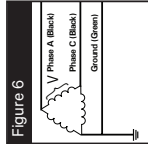

Figure 6
- 240C = 240V B Corner Grnd Delta, 3Ø 3W+Grnd (Fig 6)
- 480C = 480V B Corner Grnd Delta - 3Ø, 3W+Grnd (Fig 6)